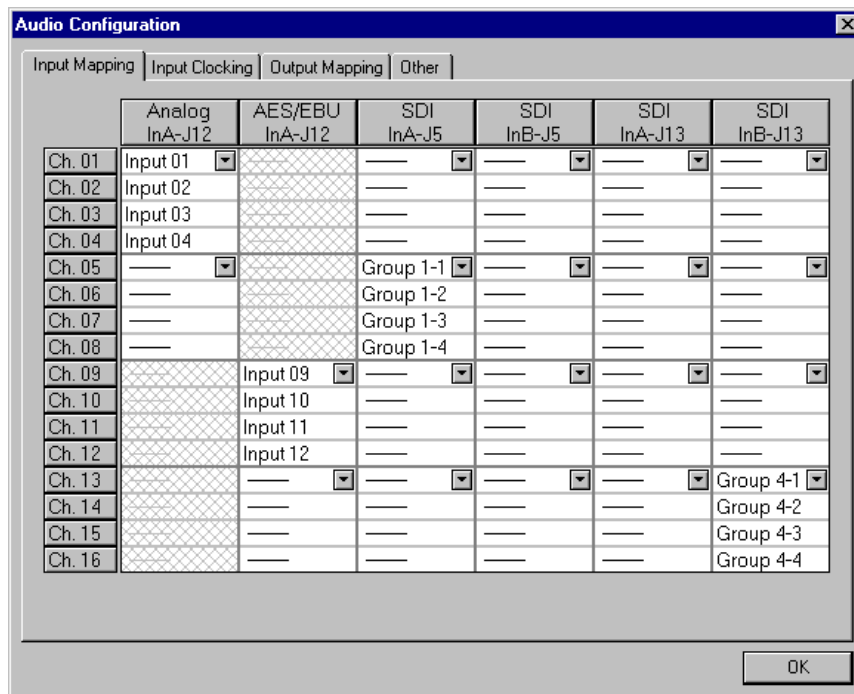
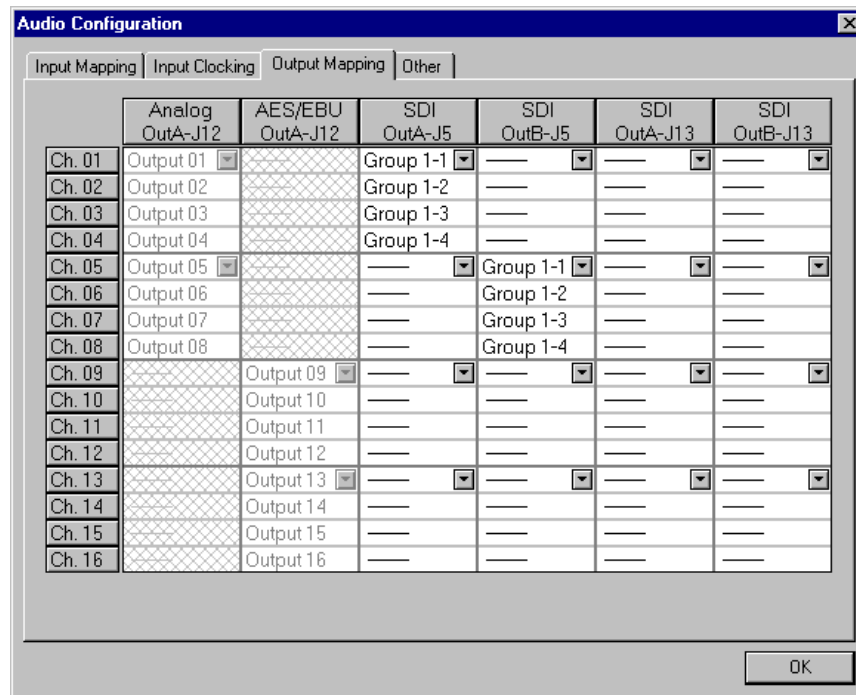

Figure 37. Audio Configuration dialog box, Input Mapping tab
Figure 38. Audio Configuration dialog box, Output Mapping tab
The Audio Configuration dialog box shown in Figure 37 allows you to map input and output channels, input clocking, audio quality and monitor channels.
The Input Mapping tab is used for mapping input channels to Profile unit channels, while the Output Mapping tab is used for mapping output channels. For example, you can map Profile Audio Chassis (PAC) input channels and serial digital audio input channels. Figure 37 and Figure 38 illustrate a Profile unit with an audio signal processing board, a PAC 208 chassis, and two serial digital cards providing eight analog audio channels, eight digital audio channels, and four video channels with 16 embedded audio channels each.
The columns are the mapping grid. The examples in Figure 37 and Figure 38 illustrate the system with a PAC 208 chassis allowing the selection of analog channels 1–8 and digital channels 9–16. A PAC 216 chassis, however, provides 16 analog inputs and 16 digital inputs. For the PAC 208, rows 9 through 16 of the analog channel column, and rows 1 through 8 of the digital channel column, are cross-hatched to indicate that these channels are not selectable. In Figure 38, in the column labeled AES/EBU, rows 9–16 appear dimmed, indicating that this audio type is always mapped and cannot be unmapped. Attempting to remap this section results in an error message.
channels to map to the channels. Audio channels are mapped in groups of four channels only, and the four audio channels are always mapped to consecutive disk channels. For example, analog channels 1–4 (Input 01–Input 04) in Figure 37 are mapped to the first four disk recorder channels (Ch. 01–Ch. 04), while digital channels 9–12 (Input 09–Input 12) in Figure 38 are mapped to the first four disk recorder channels (Ch. 09– Ch. 12).
1. Choose **Options | Audio Configuration**. The Audio Configuration dialog box appears (Figure 37).
1. Choose **Options | Audio Configuration**. The Audio Configuration dialog box appears (Figure 38).